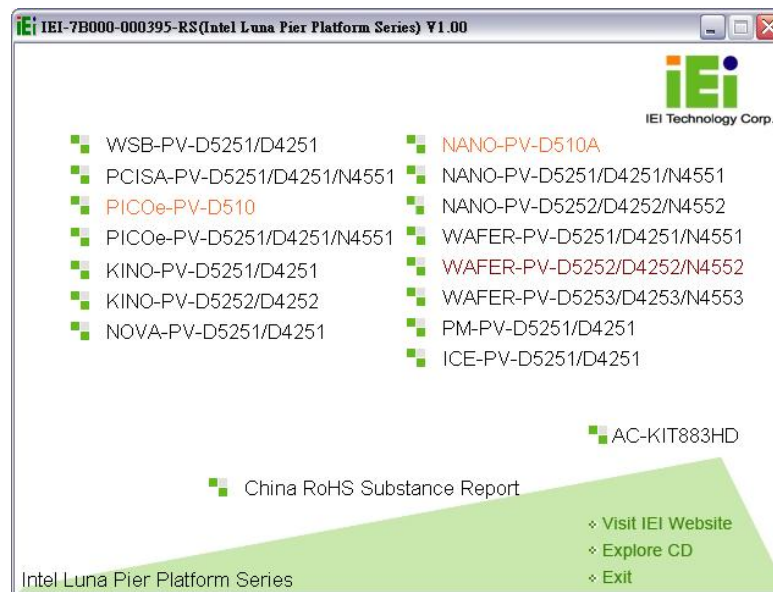

Figure 4-14: Introduction Screen
Step 2: The driver main menu appears (Figure 4-14).